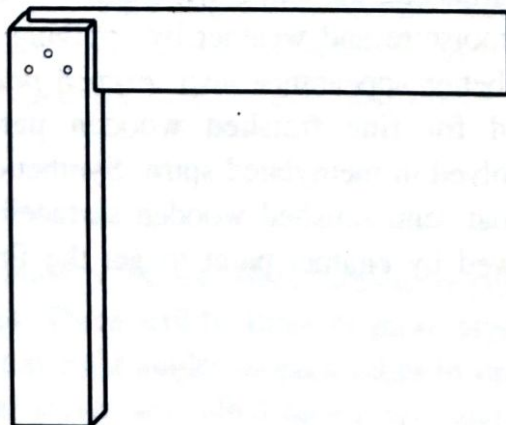

FIGURE 6.2
2. *Try square:* This consists of a rectangular steel blade fixed rigidly to a hard wood stock or cast iron stock. The size varies from 150 to 300 mm according to the length of blade (Figure 6.2).